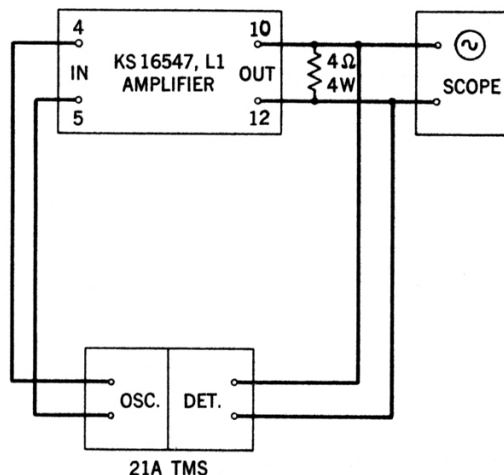

Fig. 3 - Test Setup for Observing Distortion
7.01 The distortion test should be made using the test setup shown in Fig. 3. Chart III outlines the step procedure for the test.
2	Connect circuit as shown in Fig. 3.